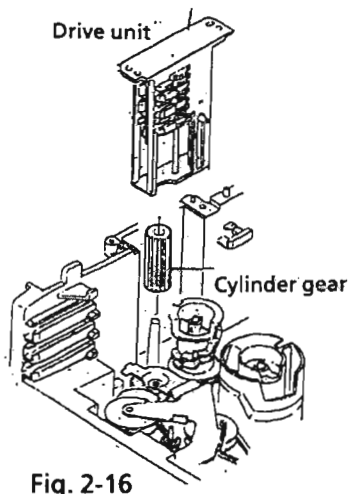

Fig. 2-16
3. Remove the drive unit and cylinder gear. (See Fig. 2-16.)